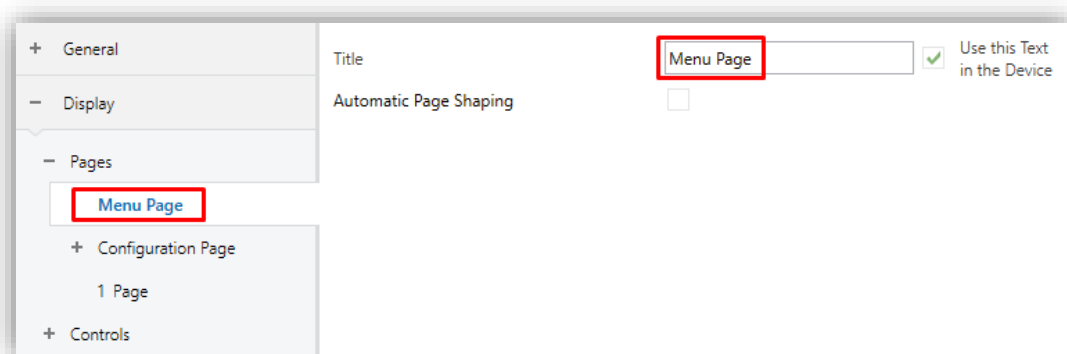

Figure 45. Menu.
- **Title:** text field that identifies the menu pages. In addition, this field allows changing the name of the tab in ETS left menu, as shown in the Figure 45.